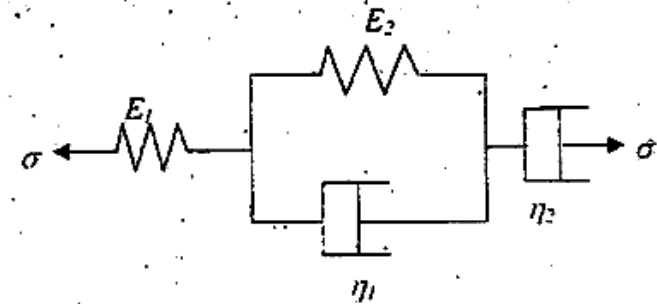

Figure-3
6. Obtain the constitutive equation for the four-element viscoelastic model shown in Figure-3. Discuss Maxwell and Kelvin-Voigt model. 10+4=14